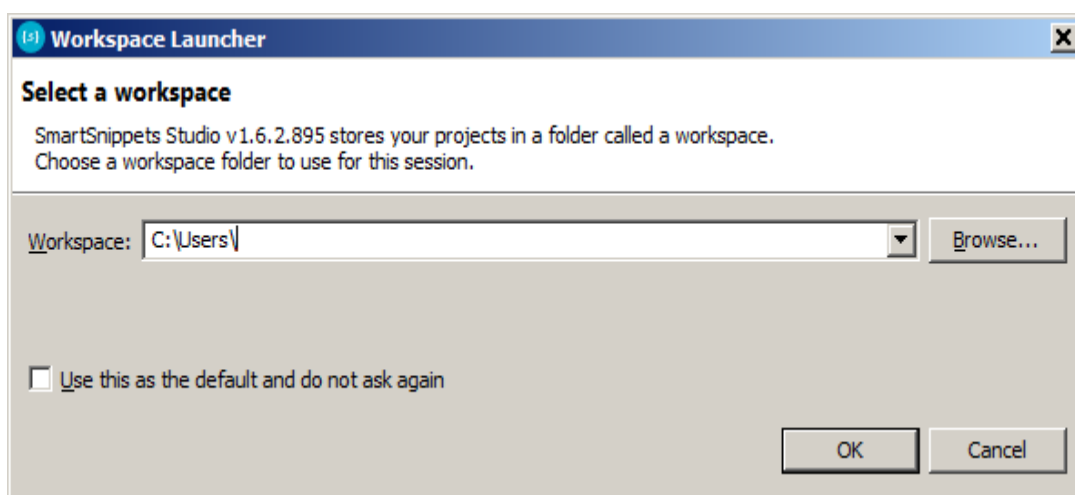

Figure 3: Dialog for Selecting Workspace
- Select the workspace folder for SmartSnippets. The dialog is shown in Figure 3. It is suggested to choose the root directory of the SmartSnippets DA1458x SDK. If this is not done correctly, then the message “you have not selected the latest SDK” will be shown. The correct message should be: “You have not yet selected a SDK. Click the Browse button above and select the SDK location”.